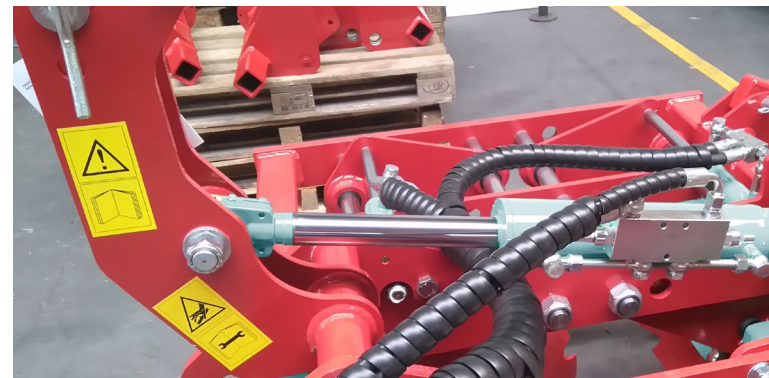

Fig. 9
2. Hydraulic folding headstock (Fig.9)